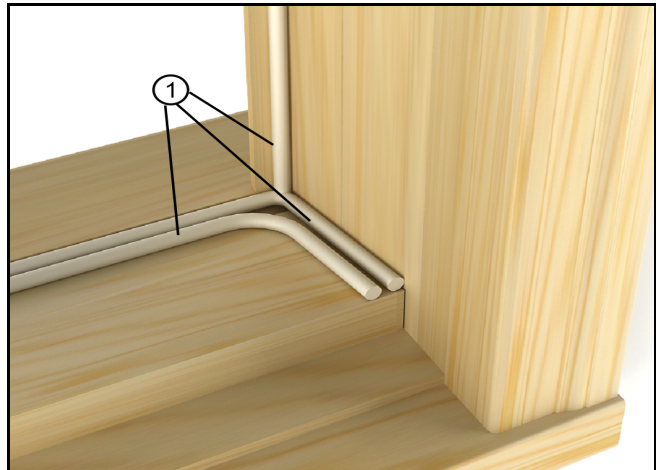

Figure 6
6. Apply a secondary continuous bead of sealant on sill as shown in Figure 6. The placement of the secondary continuous bead of sealant is the same on interior and exterior installation.